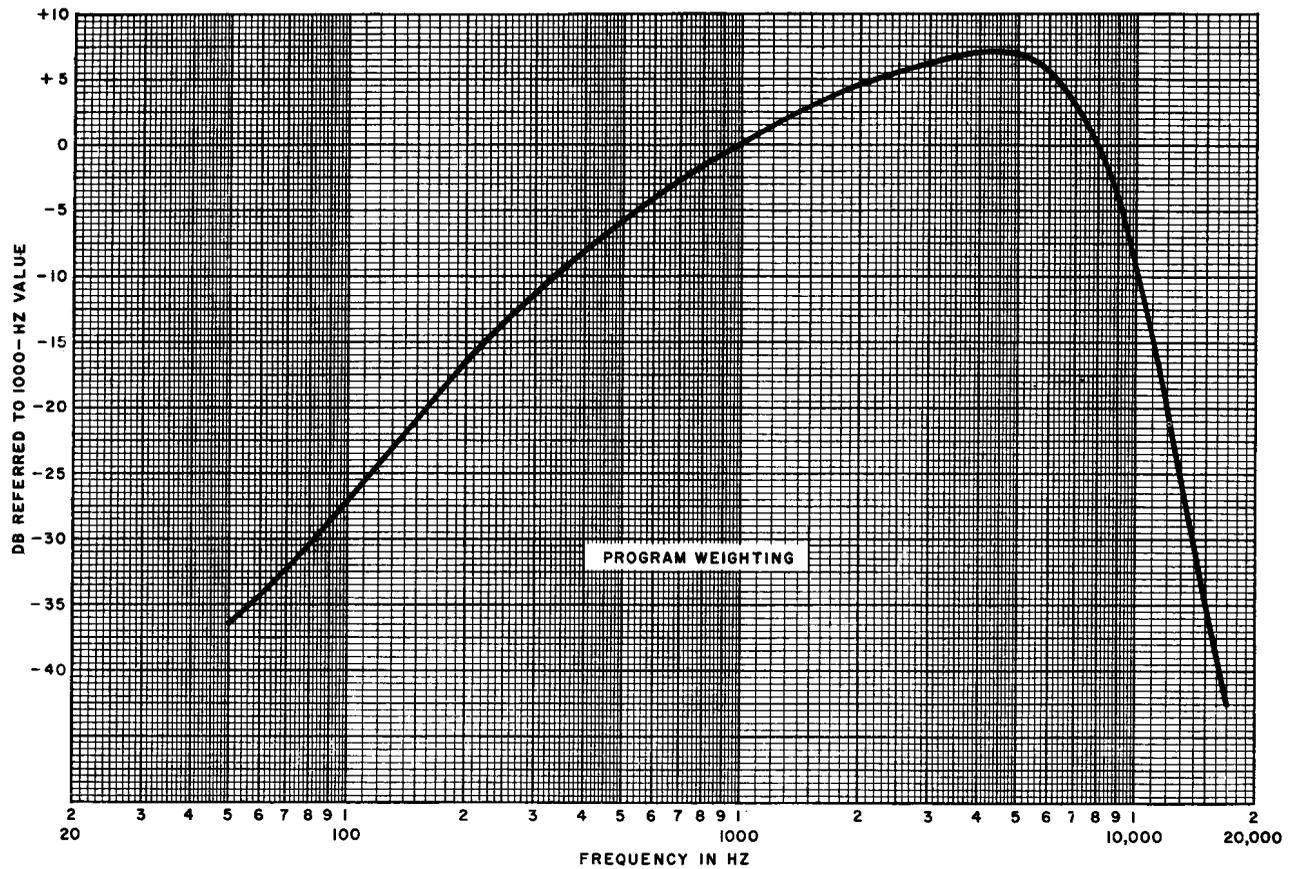

Fig. 7—Program Weighting Characteristic Curve
3.05 For measurements of noise on program circuits of bandwidths up to approximately 8,000 Hz, the characteristic of the weighting used including manufacturing tolerances, is shown in Fig. 7. The program weighting (PROGRAM) network, associated with this characteristic, is part of the 497B network package. Program weighting differs from the C- message weighting in that the design of the weighting takes into account the relative interfering effects of the various frequencies on program transmission.